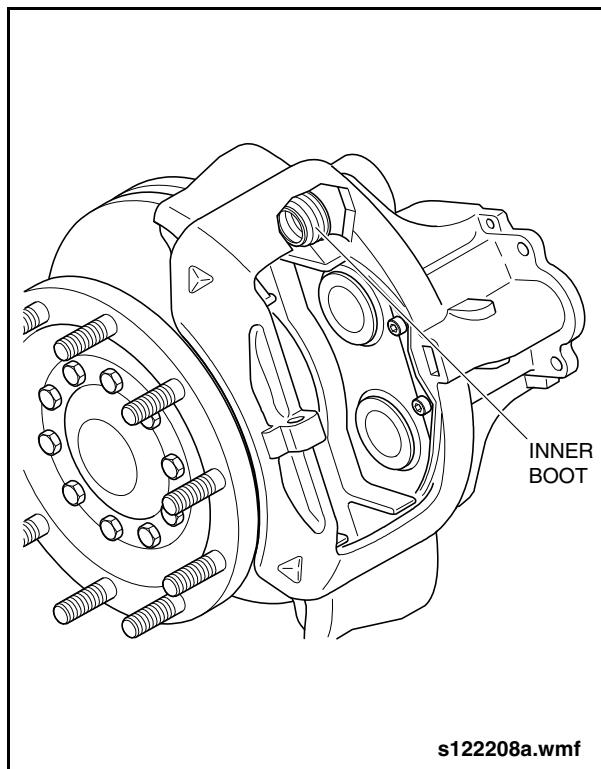

Fig. 2-118: Upper Guide Pin Inner Boot Inspection
2. Push the caliper fully inward to expose the inner rubber boot on the upper guide pin. See "Fig. 2-118: Upper Guide Pin Inner Boot Inspection" on page 106.